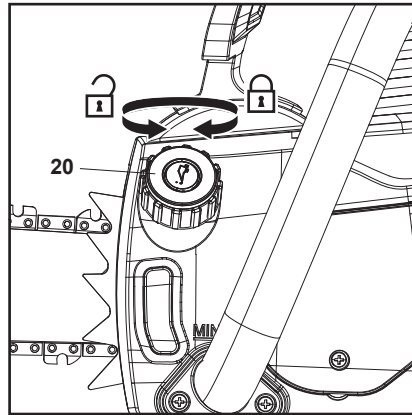

Fig. 9
1. Place the product on a stable, level surface with the oil tank cap (20) facing upward. We recommend laying a non-flammable sheet under the product.
2. Unscrew and remove the oil tank cap (20) (Fig. 9).